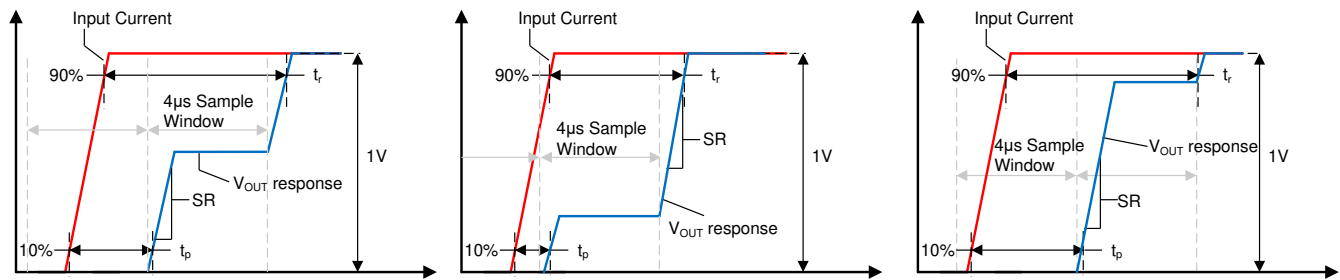

Figure 8-3. Small Current Input Step Transient Response
Slew rate (SR) is defined as the V_{OUT} rate of change for a single integration step's output transition, as shown in Figure 8-3. Because the device often requires two sampling windows to reach a full 90% settling of its final value, this slew rate is not equal to the 10%-90% transition time for the full output swing.
Propagation delay is the time period between the input current waveform reaching 10% of its final value and V_{OUT} reaching 10% of its final value. This propagation delay is heavily dependent upon the alignment of the input current step and the sampling period of the TMCS1101-Q1, as shown for several different sampling window cases in Figure 8-3.
Response time is the time period between the input current reaching 90% of its final value and the output reaching 90% of its final value, for an input current step sufficient to cause a 1-V transition on the output. Figure 8-3 shows the response time of the TMCS1101-Q1 under three different time cases. Unless a step input occurs directly during the beginning of one sampling interval the response time will include two sampling intervals.